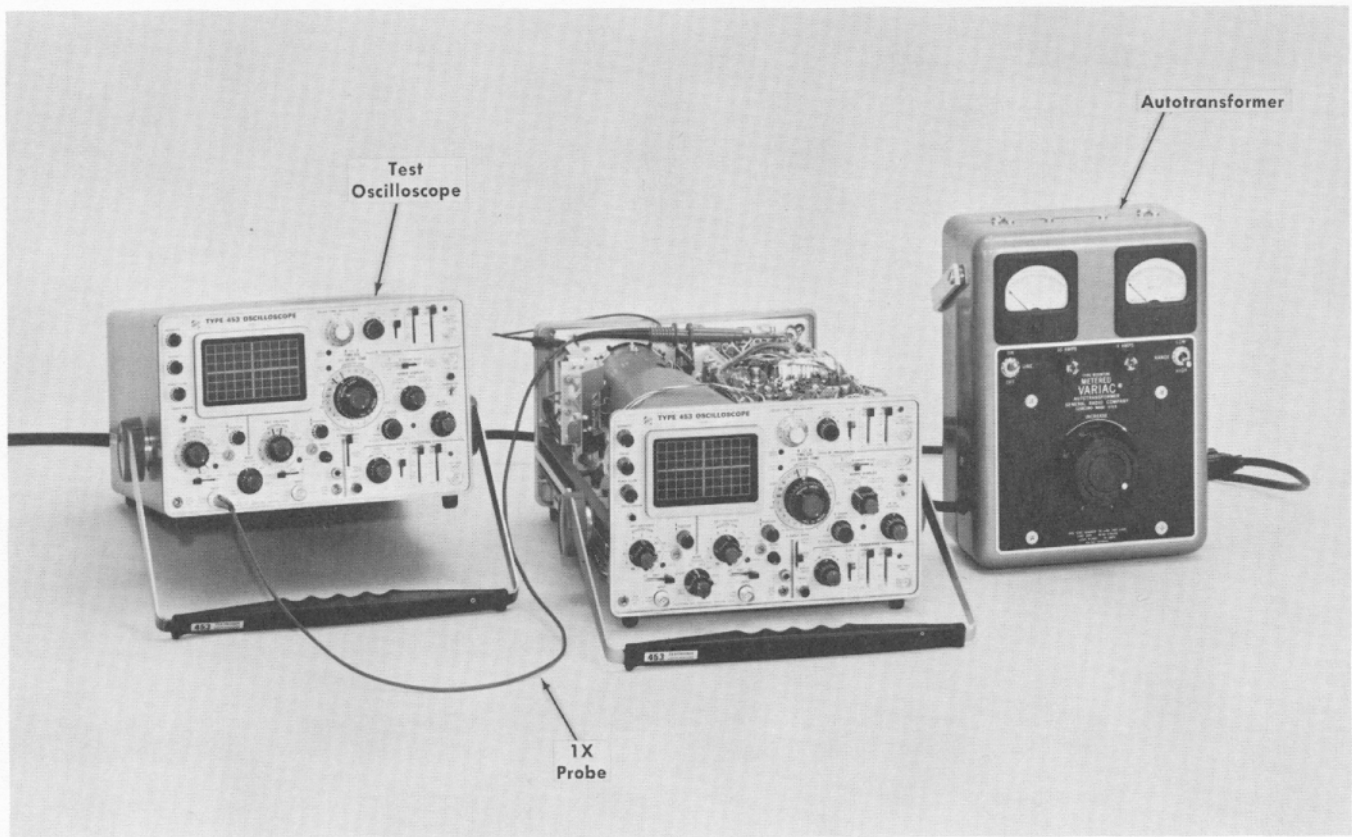

Fig. 6-7. Test equipment setup for step 4.
- a. Test equipment setup is shown in Fig. 6-7.